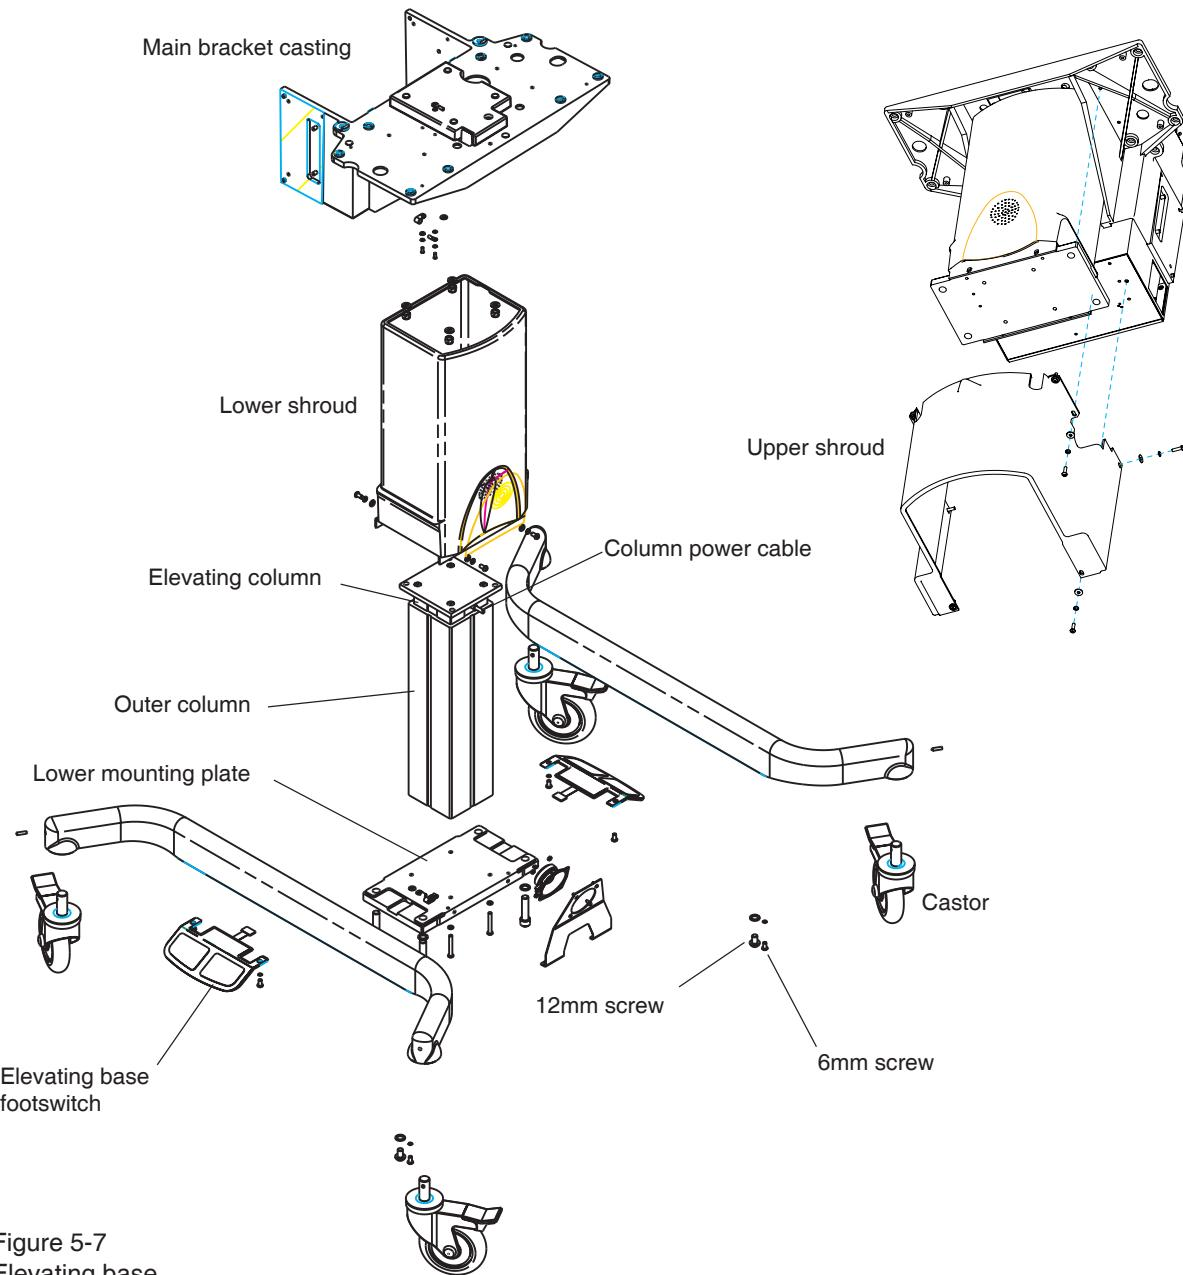

Figure 5-7
5.4.6 Elevating Footswitch (Figure 5-7)
5.6 Castor Replacement (Figure 5-7)